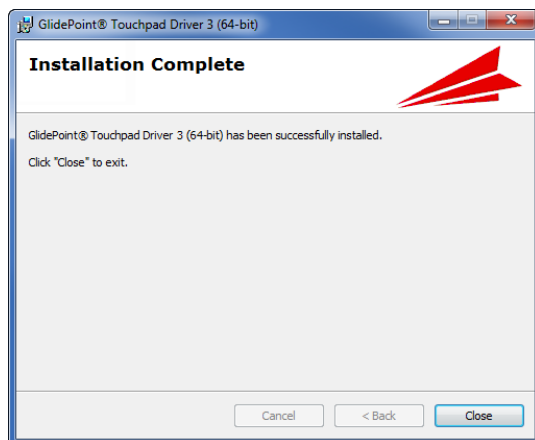

Figure 8. The Installation Complete Screen
2. Click the **Device Manager** hyperlink in the left panel (Figure 8).